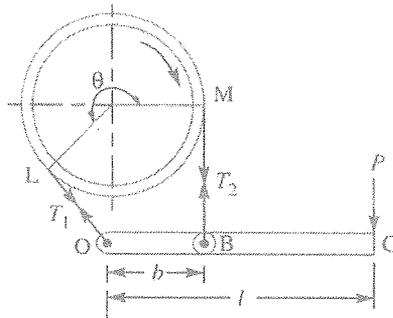

Figure Q3
- c) Obtain an expression for the braking torque of the band brake system shown in Figure Q3.
- d) The required brake torque for the band brake arrangement shown in Figure Q3 is 360 Nm. Find the brake force  $P$  required at the end of the lever, if the drum diameter is 400 mm,  $b = 200 \text{ mm}$ ,  $l = 800 \text{ mm}$ ,  $\theta = 270^\circ$  and the coefficient of friction, is 0.3.